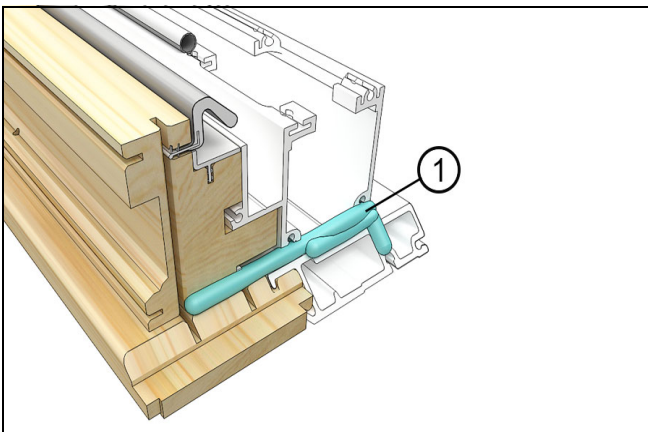

Figure 2
2. Apply silicone to head jamb miters. See Figure 2.